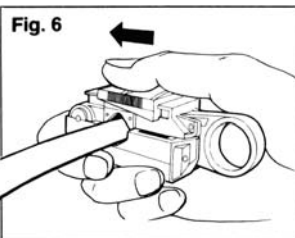

Fig. 6
**E. Push slide forward** to appropriate start position.(see fig. 6).
**Note:** Adjust the tool so that the appropriate slide progression works. (fig. 6. If your cable size does not appear in Fig. 6, develop your own 2- or 3-stage sliding sequence.